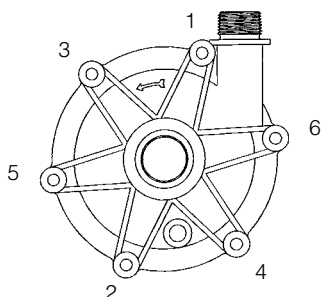

Figure 3
- Place wet end assembly (comprised of items 1-9) into the motor adapter (item 11). Grasping the barrier at opposite bolt tabs, carefully lower the wet end assembly into the motor adapter/drive assembly. Line up the tabs of the wet end between the tabs on the motor adapter to avoid pinching fingers. Once seated, rotate the wet end until bolt holes line up.
- Align mounting holes and install 6 mounting screws and washers (items 12A, 12B & 12C) from hardware package. Hand tighten screws using pattern shown in Figure 3.
1. If possible, set motor on fan cover with drive magnet assembly facing up. Place the second stage impeller assembly (comprised of items 2 and 8) into the barrier (item 9). Grasping the barrier at opposite bolt tabs, carefully lower the barrier assembly into the motor adapter (item 11). Line up the tabs of the barrier between the tabs on the motor adapter to avoid pinching fingers. Once seated, rotate the barrier until the bolt holes line up.
2. Install the housing o-ring (item 4) on the barrier. Lubricate the o-ring with a compatible lubricant to facilitate o-ring installation.
3. Install the second stage impeller housing (item 7) onto the barrier being careful not to dislodge the o-ring. Align the bolt hole tabs and gently press together (bolt clearance alignment is critical).
4. Install and lubricate the diffuser o-ring (item 6). Install the diffuser assembly (item 5) making sure to keep bolt clearance alignment straight and making sure not to dislodge the o-ring.
5. If the first stage impeller drive shaft (item 3) was replaced, reassemble it to the impeller assembly by matching the three tabs on the end of the drive shaft with the three recessed slots in the impeller assembly (item 2) and press together.
7. Install and lubricate the housing o-ring. Coming straight down, gently place the impeller housing (item 1) onto the pump with the ceramic front spindle support sliding into the bushing on top of the first stage impeller assembly (items 2 and 3). Orient the housing with the directional arrow on top, the drain boss location on the bottom and with the mounting holes aligned. Install the six mounting bolts, washers, and lock washers (items 12A, 12B, and 12C). Make sure the housing o-ring is not dislodged or pinched. Hand tighten the mounting bolts to pull the pump together using the pattern shown in figure 3.
8. After the housing is tightened down, insert a screwdriver into the suction and push down on the front of the first stage impeller assembly (Note: Do not press on gray thrust ring) to completely set the impeller drive shaft (item 3) into the second stage impeller (item 8). Push firmly on the three areas separated by the spindle support arms in the suction. Rotate the motor fan to verify nothing is rubbing.
9. **56C frame pumps.** Carefully slide the pump assembly over the drive magnet assembly. Orient the discharge port to either the 12 or 9 o'clock position. Make sure the rabbet on the motor is fully seated into the motor adapter (item 11). Align the bolt holes in the motor adapter and the motor. Install 4 bolts and washers (items 14A, 14B, 14C) and tighten securely.